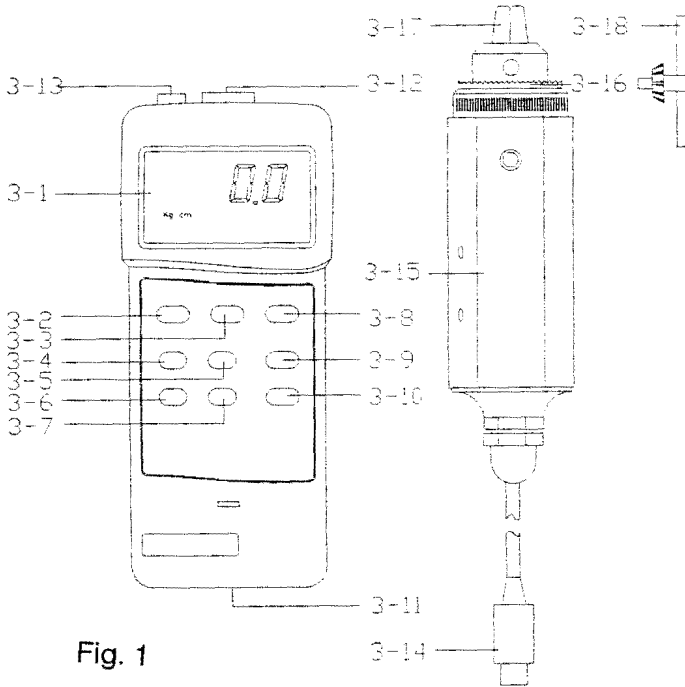

Fig. 1
- 1) Plug in the " Sensor Cable Plug " (3-14, Fig. 1) to meter's " Sensor Input Socket " (3-12, Fig. 1).
- 2) Power on the meter by push the " Power Button " (3-2, Fig. 1).
- 3) Push the " Sensor Type Button " (3-8, Fig 1) to check if the meter's sensor type is same as the external torque sensor.
Push the " Unit Button " (3-5, Fig. 1) to select the unit Kgf-cm, LBf-inch or N-cm (Newton-cm).
Push the " Resolution Button " (3-7, Fig. 1) to select the High resolution or Low resolution.
The " Fast/Slow Button " (3-10, Fig. 1) is used to select the fast sampling time or slow sampling time.
7) To connect the "Cramp" (3-17, Fig. 1) to the measured installation and use the "Opinion" (3-18, Fig. 1) to lock the "Gear" (3-16, Fig. 1). Ref. Fig. 2 & Fig. 3.
Before the measurement, if the meter not show zero value, it can push the " Zero Button " (3-9, Fig. 1) to tare the display value, the LCD will change to zero value.
During the measurement, push the " Peak Button " (3-6, Fig. 1), the LCD will show the " PEAK " indicator & the display will hold the peak value.
During the measurement, pushing the " Hold Button " (3-3, Fig. 1) will freeze the measured value & display will indicate " HOLD " symbol. Push the " Hold Button " again to release the data hold function.
* The DATA RECORD function displays the maximum and minimum readings. To start the DATA RECORD function, press the " Max./Min. Button " (3-4, Fig. 1) once. " REC " symbol will appear on the LCD display.
(a) Push the " Max./Min. Button " (3-4, Fig. 1) once, the " Max " symbol along with the maximum value will appear on the display.
To disable this feature, Select the memory record function during measurement, by pressing the " Max./Min. " button (3-4, Fig. 1).
The instrument features an RS232 output via 3.5 mm Terminal (3-13, Fig. 1).
- 2) Slide the Battery Cover (3-11, Fig. 1) away from the instrument and remove the battery.